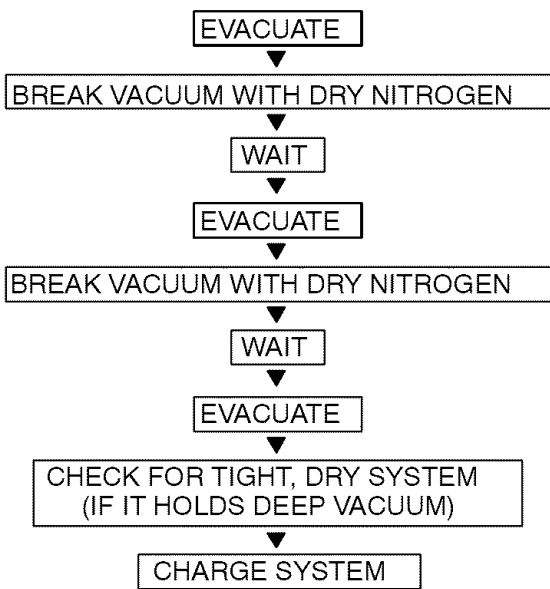

Fig. 7 – Triple Evacuation Method
The triple evacuation method should only be used when vacuum pump is only capable of pumping down to 28 in. of mercury vacuum and system does not contain any liquid water. Refer to Fig. 7 and proceed as follows:
5. Repeat this procedure as indicated in Fig. 7. System will then be free of any contaminants and water vapor.